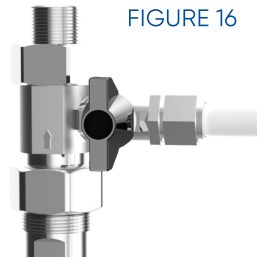

FIGURE 16
1. SWITCH OFF your "Feed Water Adapter" by turning the handle so that it is perpendicular with the "White PE Tubing" (Figure 16).